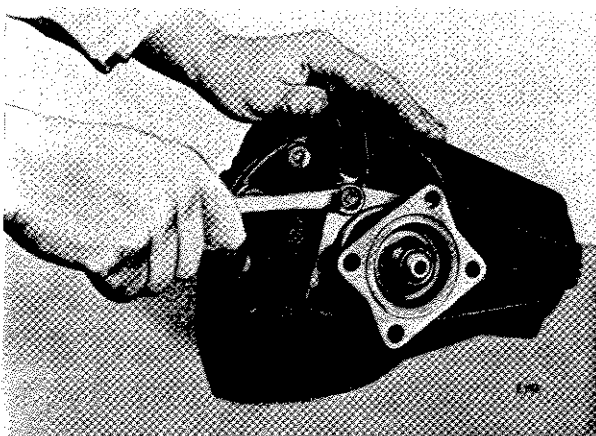
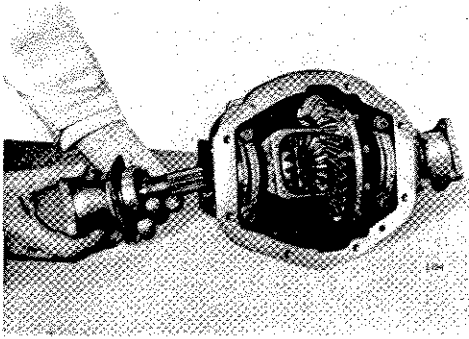
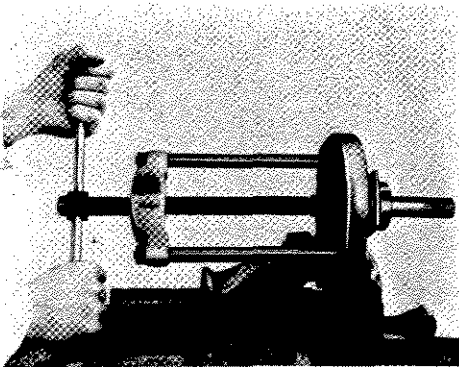

Fig. 56. Removing the bearing retainer bolts
Fig. 57. Removing the inner axle shaft assembly
Fig. 58. Extracting the inner axle shaft flange
Remove the inner axle shafts (34), by removing four bolts (Fig. 56) and spring washers from the bearing retainers (26) and withdrawing the shaft assemblies (Fig. 57). Remove the nut (30) and washer (29) and extract the flange (28); see Fig. 58.